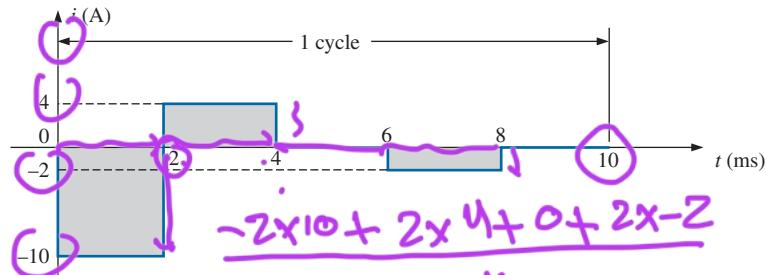

FIG. 13.47
b. Fig. 13.47.
The response of a dc meter to the waveform in Fig. 13.47.